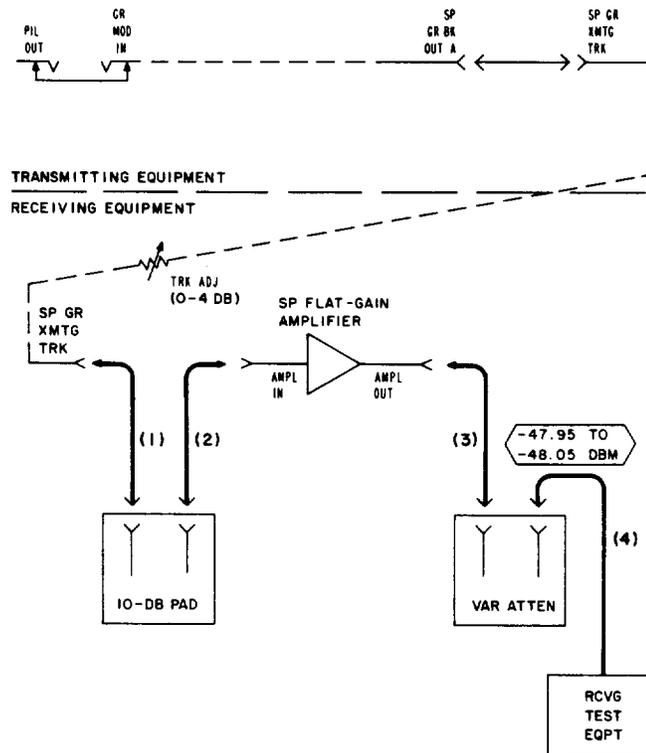
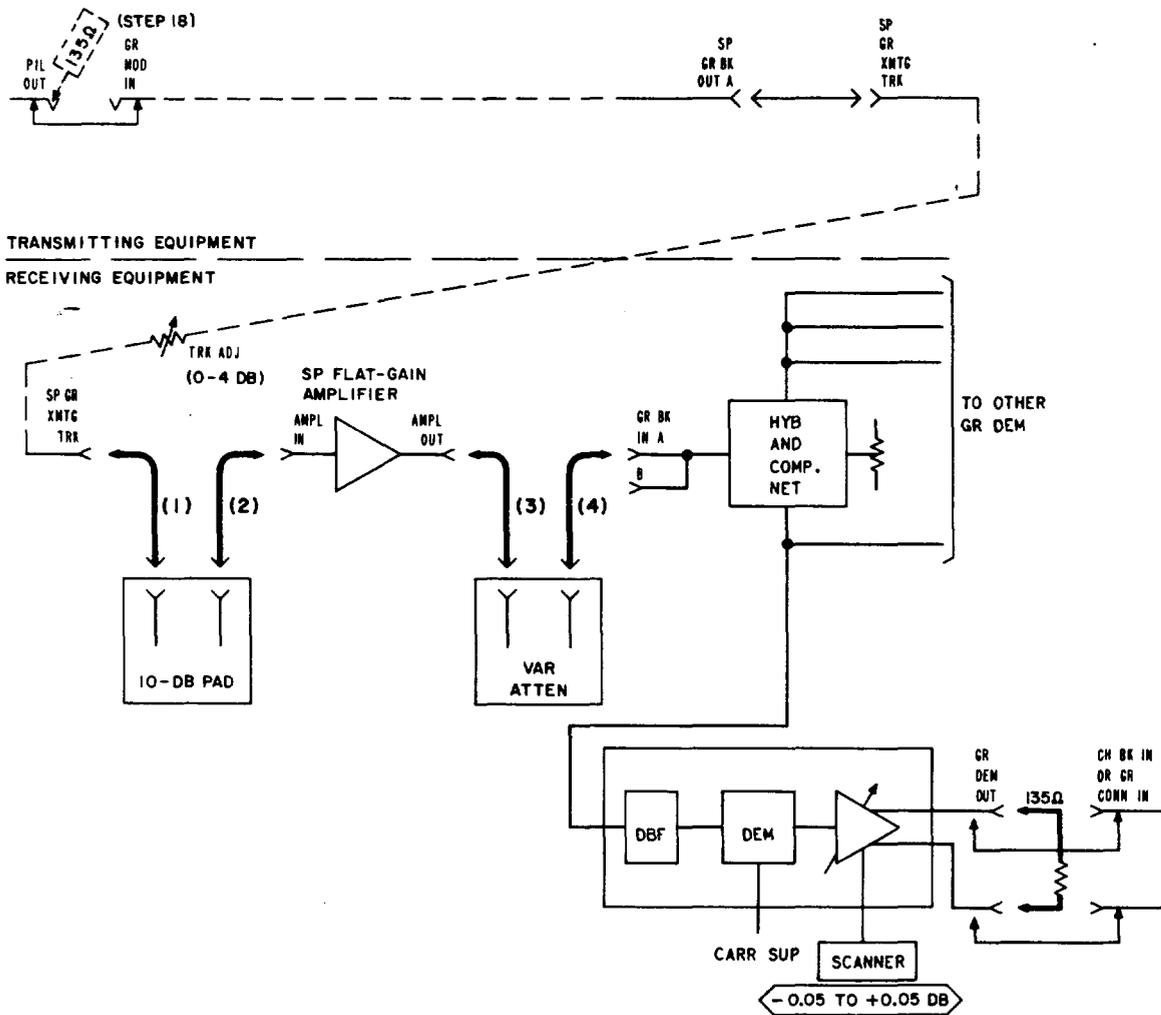

Fig. 1—Pilot Level Test Connections
Fig. 2—Test Connections for Amplifier Adjustments
4 Make the test connections shown in Fig. 1.
| 7 | <p>Remove patch (4) in Fig. 1 and make patch (4) in Fig. 2. Also, insert a 135-ohm termination in the GR DEM OUT jack.</p>   |